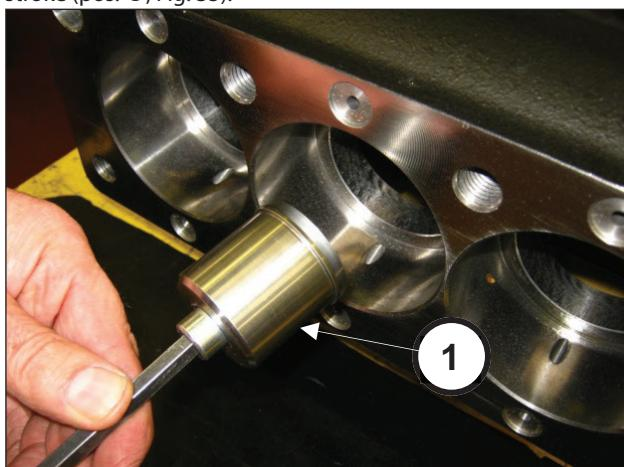
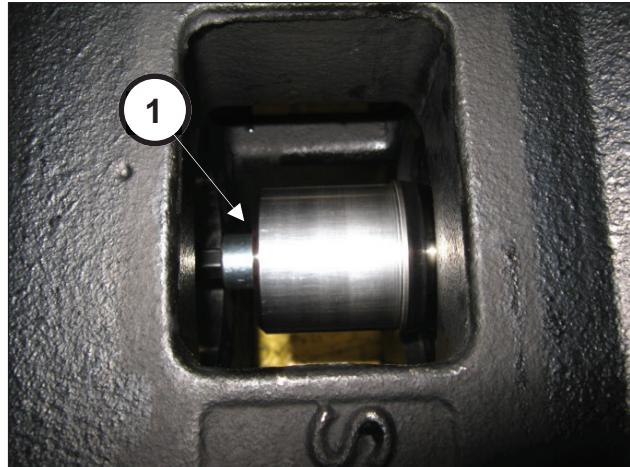

Fig. 34
Fig. 35
Insert the tool (pos. ①, Fig. 34) and screw it on the rod to end stroke (pos. ①, Fig. 35).